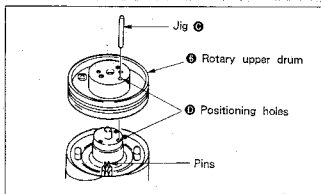

Fig. 7-47.
- 2) Use jig ⑥ (Ref. No. J-10) to line up rotary upper drum ⑦ and the positioning hole ⑧, and lightly insert the rotary upper drum. At this time, confirm that the pins stick up the hole of rotary upper drum board. Fix with tweezers if the pins catch. (See Fig. 7-47.)